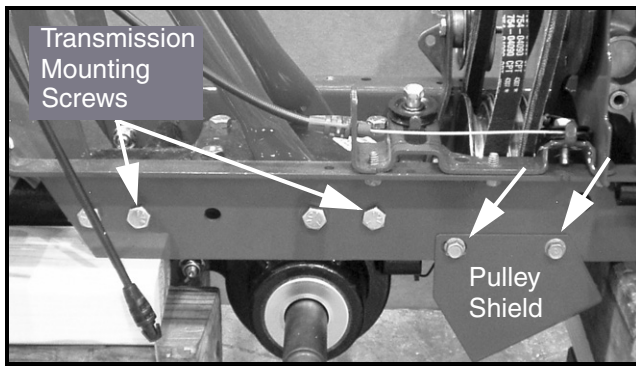

FIGURE 6
20. Using a 3/8" socket and ratchet, remove the 4 self-tapping screws (2 on each side) securing the pulley shield to the frame rails. Remove the pulley shield. See Figure 6.
21. Support the transmission at the forward end so that when the four (4) transmission mounting bolts are removed in the next step the transmission will not drop.
22. Using a 1/2" socket and ratchet, remove the four (4) screws (2 on each side) securing the transmission to the frame rails. See Figure 6.